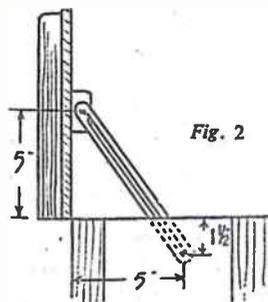

Fig. 2
distance of $\frac{1}{2}$ in. from each end, bore $\frac{1}{4}$ in. holes. Extend the bottom hole to make a long slot reaching to within $\frac{1}{2}$ in. of the top hole, as in the diagram. In the ends of the box, at the distance down of 1 $\frac{1}{2}$ ins. and 5 ins. from the rear (as shown in Fig. 2), drill a $\frac{1}{2}$ in. hole through, and insert bolts provided with a washer and flynut.
For the top fitting of the stays, cut blocks of wood 2 ins. long and $\frac{1}{2}$ in. wide. The stays are pivoted to these with flat-headed screws, the holes being countersunk to sink the screw heads. Fix the blocks with screws to the inside of the lid, where shown at Fig. 2, slip the lower ends of the stays over the bolts in the ends of the box as at Fig. 3 (C), then, if correctly positioned, the lid should close down fully. If not, extend the slot a trifle, which should make all right. When the lid is opened, tighten up the nuts to keep the stays from slipping down. Fit a hook and eye fastener to the box front and lid to complete the work of construction.
As the lid is to be used, as required, as a blackboard, a pair of stays should be fitted to keep it in a vertical position for that purpose. Of course, a pair of metal stays can be purchased at most hardware shops, but if expense is a consideration, and metal stays are not so cheap nowadays as they used to be, a quite good article can be made oneself with a small bit of tough fretwood or $\frac{1}{2}$ in. plywood. The positions of the stays, when holding the box lid up, are shown in Fig. 2, and length of the stays in Fig. 3 (B).